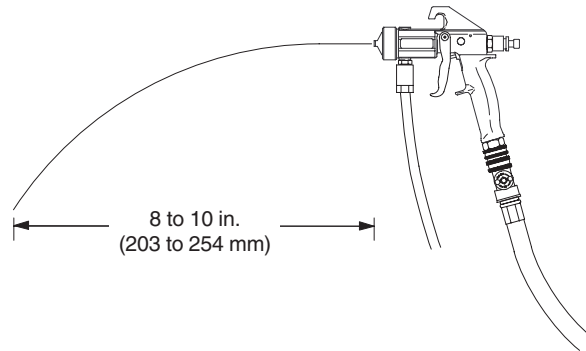

Fig. 7 05284
2. For remote pressure pot, hold gun parallel to floor and adjust fluid pressure at 8 to 10 inch (203 to 254 mm) fluid stream. See Fig. 7.